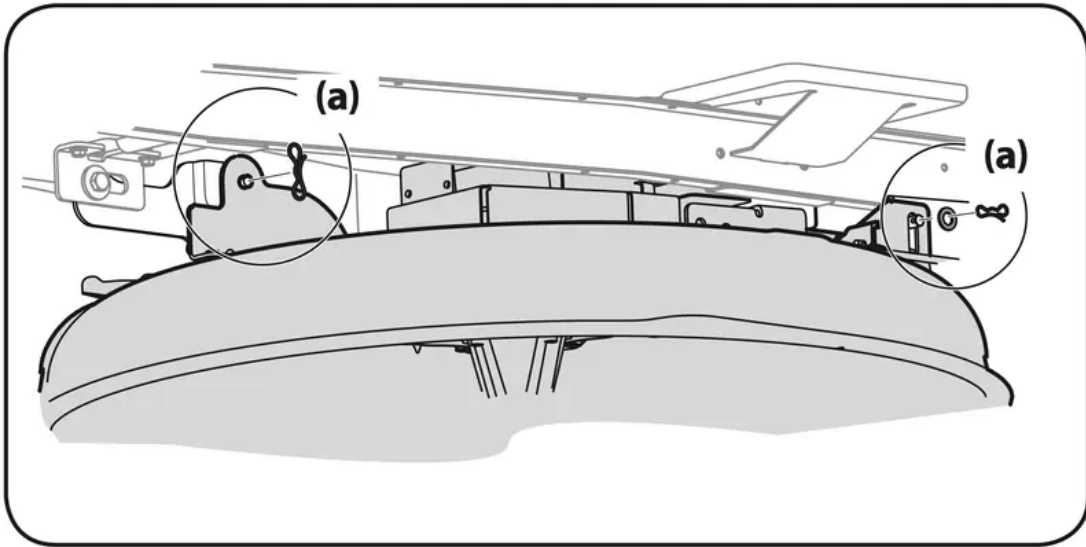

Figure 21
5. Remove the remaining bow-tie cotter pins (a) securing the deck to the tractor, as shown in Figure 21.
5. Secure the deck to the deck lift arms using two bow-tie cotter pins. See Figure 21.